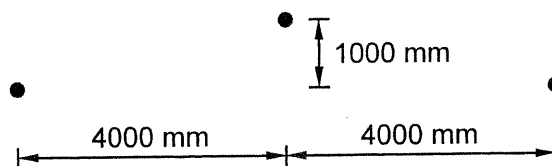

Figure 1: Single conductor geometry
- (a) The geometry of an existing transposed transmission line is shown in Figure 1. The conductors in each phase can be assumed to be cylinders of aluminium with a diameter of 30 mm. Determine the inductance, capacitance and resistance per phase for the line. The line length is 100 km. Skin effect corrections must be made for an operating frequency of 50 Hz. (8)